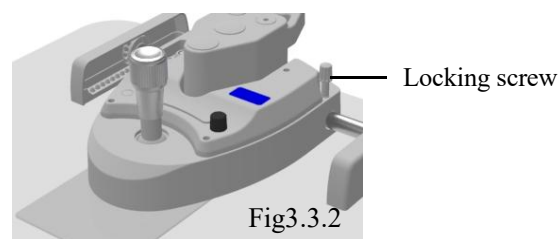

Fig3.3.2
4. Lock the base. After the microscope is adjusted, tighten the base locking screw (see Figure 3.3.2) to fix the base so that it cannot move.